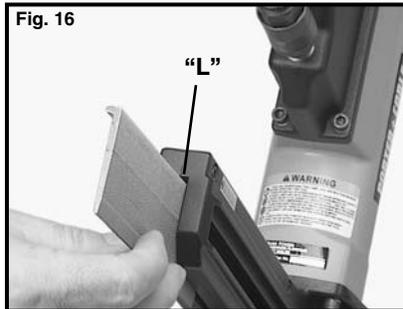

Fig. 16
2. Orient a strip of L-shaped cleats with points down (see Fig. 16), and align with the slot (L) at the end of the magazine.